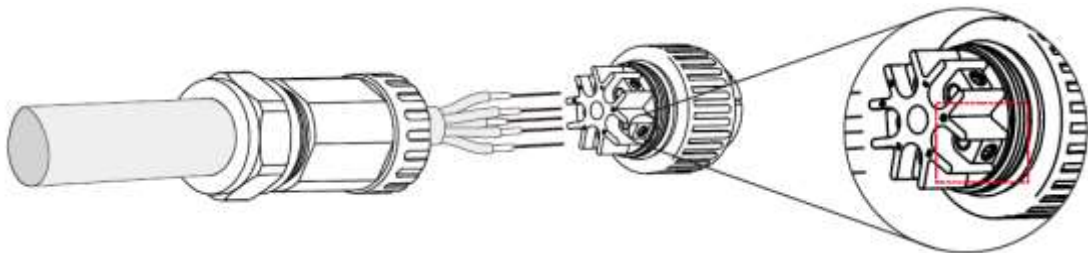

Figure 7.14.4 Connected cable
- 1) Stripped the insulation sleeve of cable for 70mm, so that bared copper—cored connector reaches for 9mm. Cable through nut and sleeve of socket element, insert corresponding terminals and tighten with allen wrench (see figure 7.14.4). Torque is 1.8-2.0Nm.
Tighten cable with 3.0 mm allen wrench( focus in dotted box, see figure 7.14.4). Allen